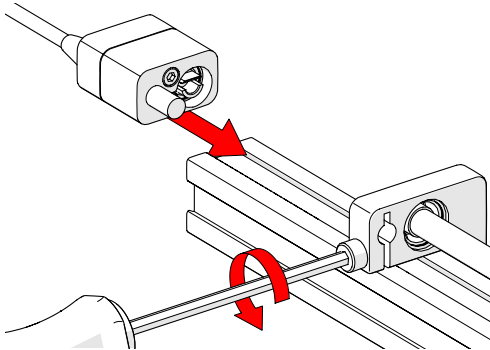

Fig. 71 - Loosen and slide post in place
1. To install the index encoder, loosen the clamp screw of the index encoder support bracket with the supplied 3 mm hex driver (Fig. 71).